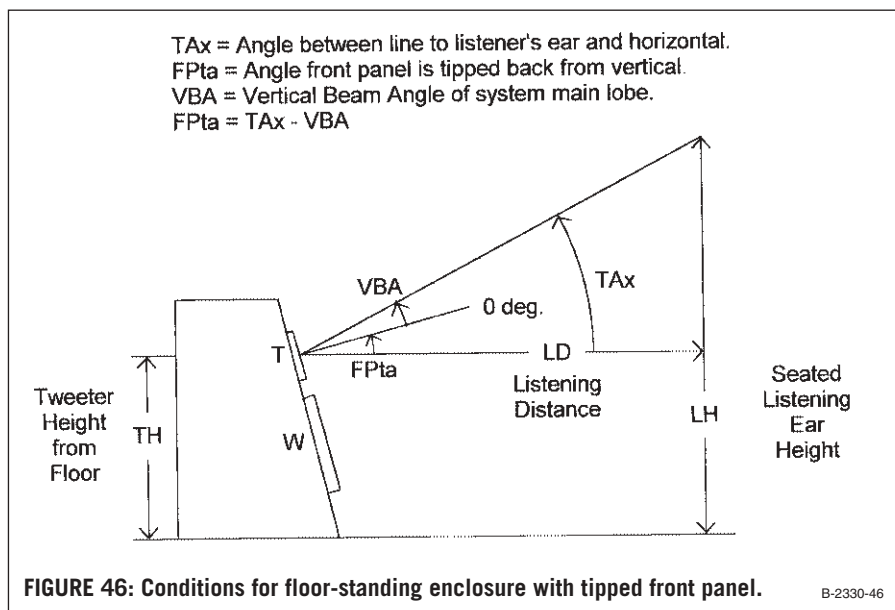
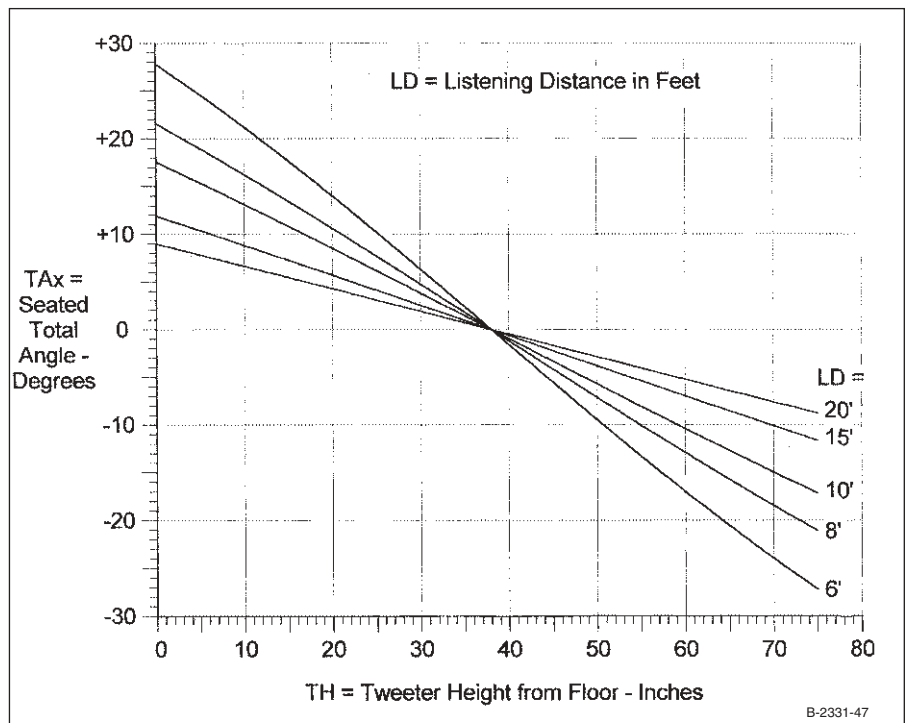

FIGURE 46: Conditions for floor-standing enclosure with tipped front panel.
FIGURE 47: Plot to allow establishing seated total angle for a floor-standing enclosure with tipped front panel.
Figure 46 shows the conditions for a floor-standing enclosure with a tipped front panel. All positive angles are shown and exaggerated in this figure for clarity. The front-panel tip angle (FPta) is the angle that the front panel is tipped back from vertical. Tipping the front panel rotates the tweeter's zero degree line an amount equal to the FPta. A positive VBA rotates the "line" to the listener upward even more. The object is to pick a FPta that aims the VBA at the seated listener.
Figure 47 offers a plot to help accomplish this. On the horizontal axis locate the height the tweeter will be above the floor (TH) in the enclosure. Go vertical to the line nearest your listening distance (LD). Then horizontal to establish the required seated total angle (TAX), which is the angle from horizontal to the "line" to the listener (Fig. 46).
Start at 14" on the horizontal axis of Fig. 47 and move vertical to, say, 8' listening distance (LD). Then, move horizontal to get TAX = 14° . This means FPta = $14 - (-8) = +22^\circ$, which is an excessive
Now examine Sys119 for the possibility of building with the woofer above the tweeter. This means the VBA is now $+8^\circ$ and the tweeter height is about 6" off the floor. Using Fig. 47, this results in a TAX of 18° and a FPta of $(18 - 8)$ or $+10^\circ$. Constructed with the woofer at the top, Sys119 sounded just fine.